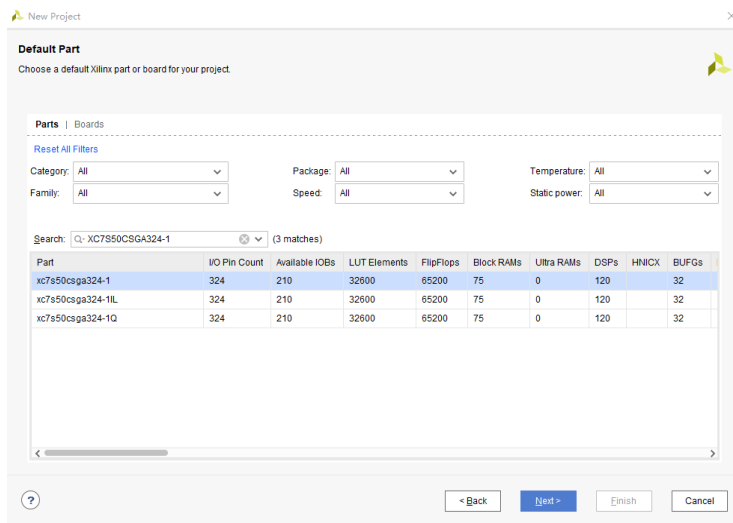

Figure 4 - Selecting the Correct Part
- A window in Figure 4 will appear, search, and select ***XC7S50CSGA324-1***, click *Next*.